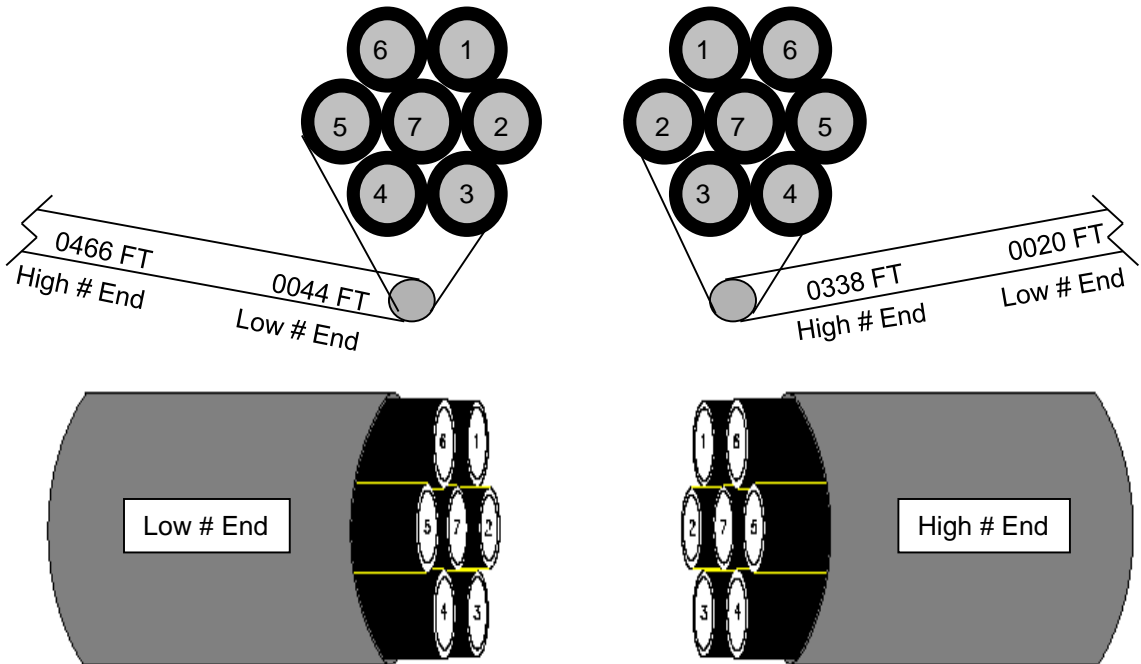

Figure 9
12.4 If the Low # End of one tube cable will mate to the High # End of the other tube cable, when coupled, the tubes will not be crossed or twisted and the desired straight-through connection can be made. (A Low-to-High or High-to-Low condition is good.) **See Fig. 9.**